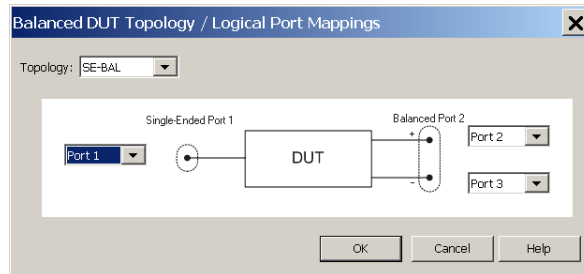

Figure 4 Logical Port Mapping for OE measurement
For OE measurements the single-ended (SE), logical port 1 is assigned to physical port 1 and the balanced (BAL), logical port 2 is assigned to the physical ports 2 and 3 (see Figure 4).